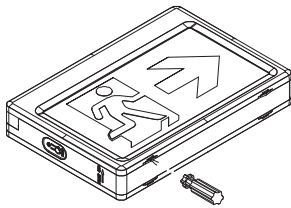

Fig.4.2
5.5. If pictogram direction assembled not suitable, pictogram can take out for change direction or replace pictogram, and then insert into the diffuser easily.(Fig. 4.2)